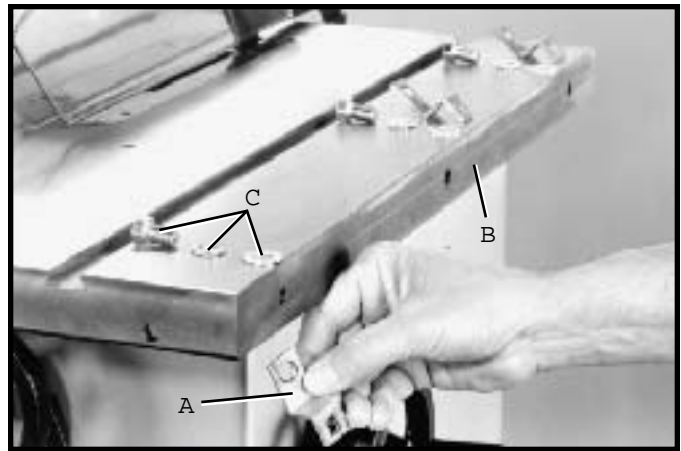

Fig. 40
1 Assemble Z-brackets (A) Fig. 40, to the three tapped holes at the inside edge on the right side of saw table (B), using three 7/16-20 x 3/4" hex head screws (C) with flat washers and lockwashers.